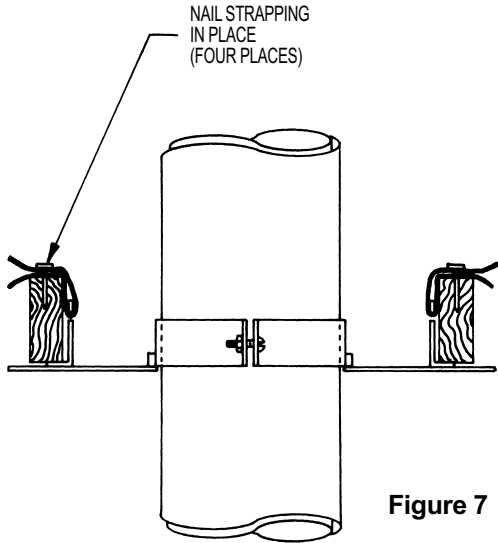

**Figure 6**
2. Frame in an opening providing one-inch clearance to Hart & Cooley Type B Gas Vent. See **Figure 6** and **Table**
5. If used as a support, install Support Bracket (SB) as shown in **Figure 6**. Clamp bracket securely to pipe section, using the pair of bolts and nuts provided.